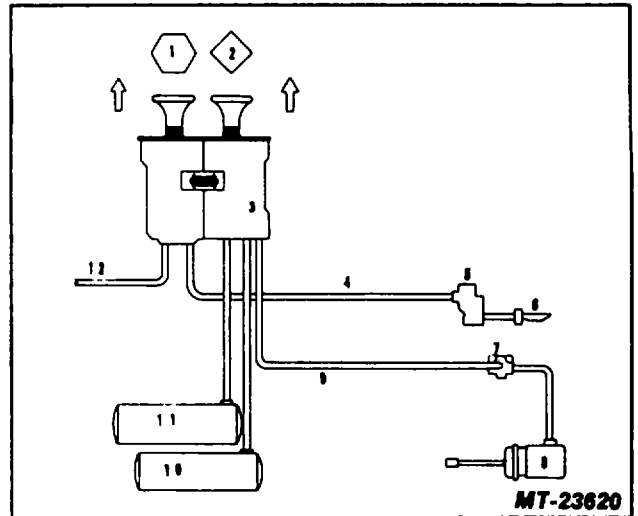
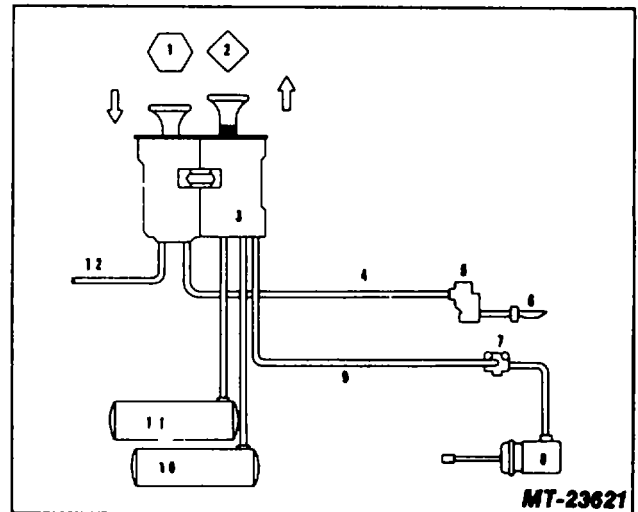
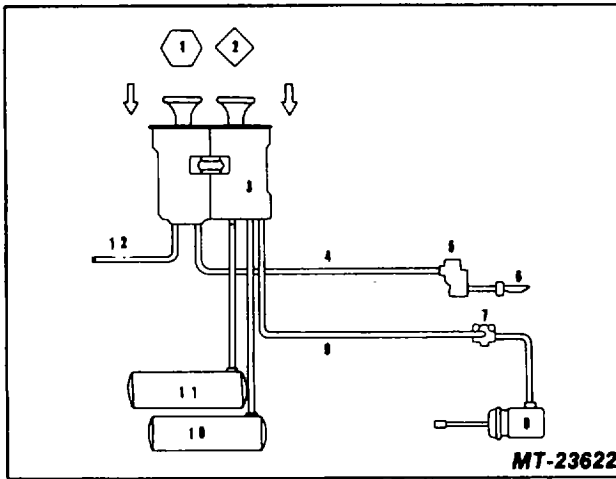

Fig. 6 Total Vehicle Parked
Fig. 7 Charge Trailer with Tractor Parked
Fig. 8 Normal Operating Position
With the system completely discharged, both knobs are out (Fig. 6). When system pressure reaches 448 kPa (65 psi), the red knob (trailer supply) may be pushed in (Fig. 7) and should stay in, charging the trailer system and releasing the trailer brakes. The yellow knob (system park) may now be pushed in (Fig. 8) which will supply air to the tractor spring brakes, releasing them.
System Park (Fig. 6)
Legend for Figs. 6, 7, 8 & 9
Trailer Charge (Fig. 7)
With both knobs in, as in the normal run position (Fig. 8), and supply pressure to the push-pull valves is reduced to 276 ± 27.6 kPa (40 ± 5 psi), the red knob (trailer supply valve) must pop out, applying the emergency or parking brakes on the trailer. If the red knob is held in manually and the pressure decreases to 207 ± 27.6 kPa (30 ± 5 psi), a tripper piston within the trailer control spool will move upward, exhausting the trailer air supply, thus applying the trailer brakes.
Normal Run Position (Fig. 8)
3. Connect air lines to their respective fittings (refer to Fig. 7 for porting designation).